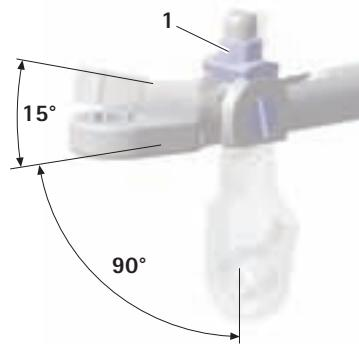

Fig. 3
- Move T-wrench **H** to the required angle and tighten hexagon **1** turning the tool clockwise, see Fig. 3.